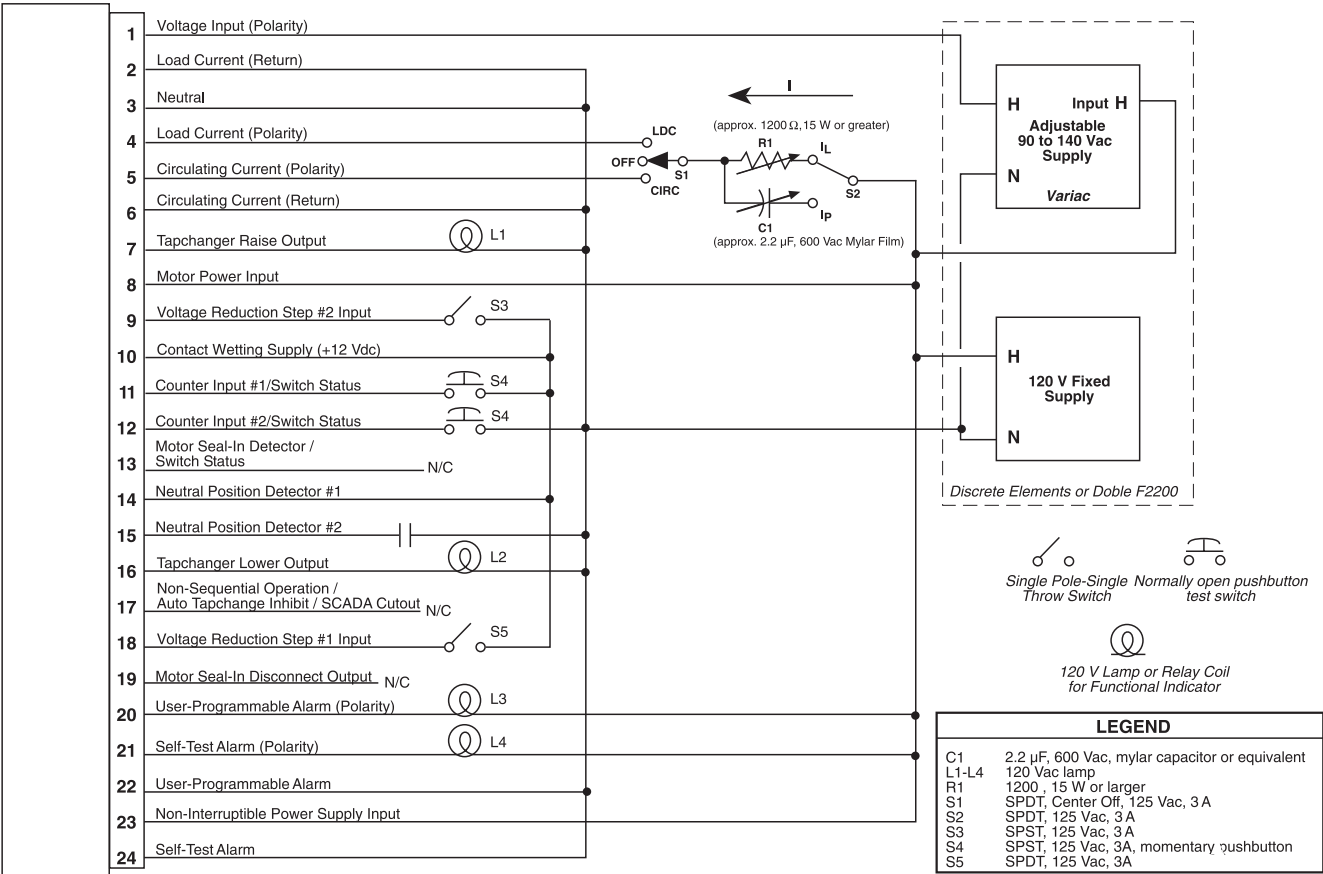

Figure 448: External Connections for Test Procedure
1. Make electrical connections as shown in Figure 448.